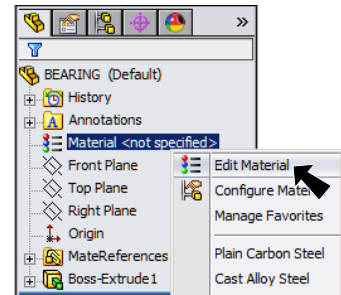

Fig. 9
Step 1. Right click Material  in the Feature Manager and click Edit Material, Fig. 9.